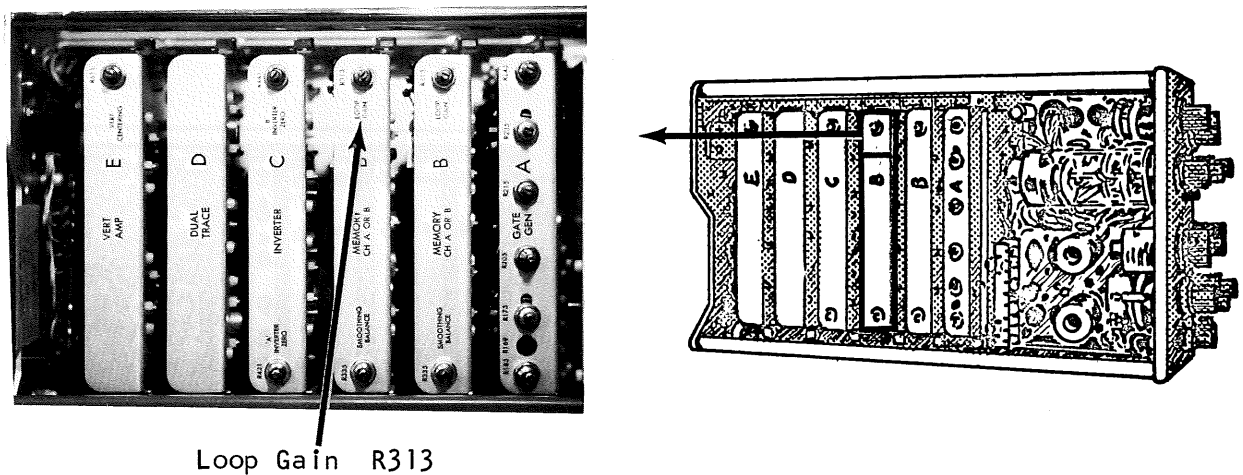

Figure 5-49
- Adjust the Loop Gain, R313 - See Figure 5-49, for a loop gain of 1.